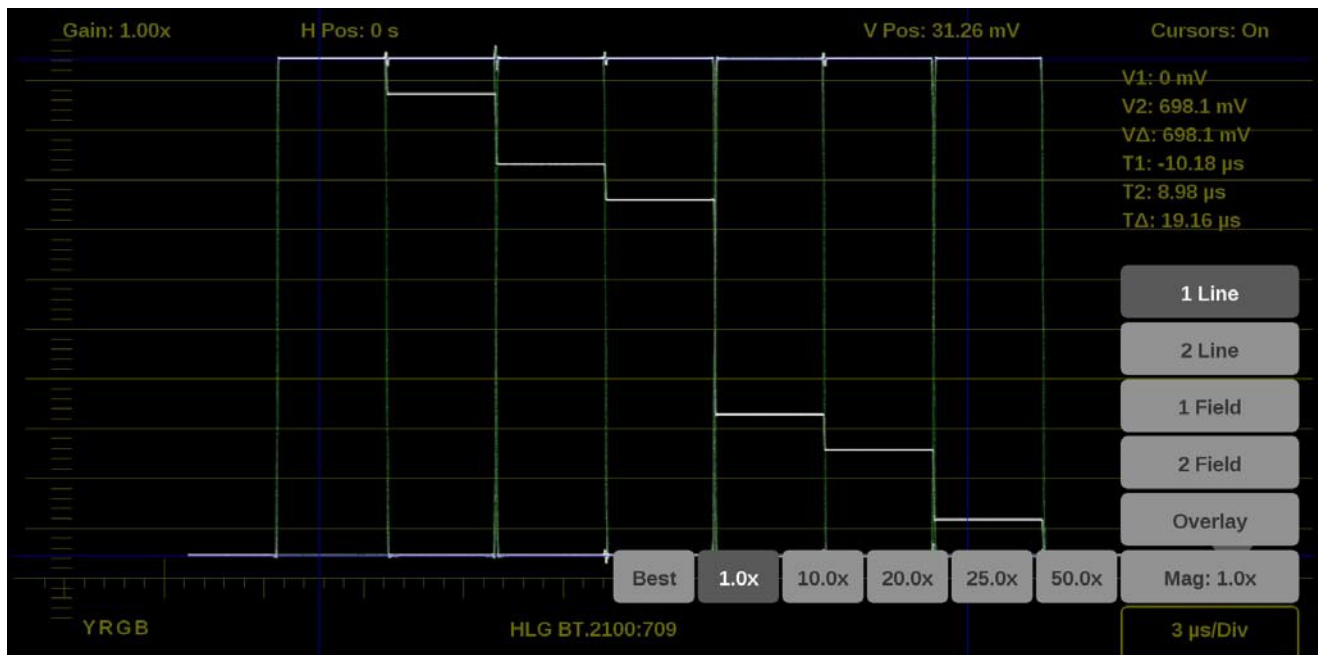

Figure 93: Waveform on-screen tools – display format
1. Select the button in the bottom right corner of the application to expand the available display format options. (See Figure 93.)